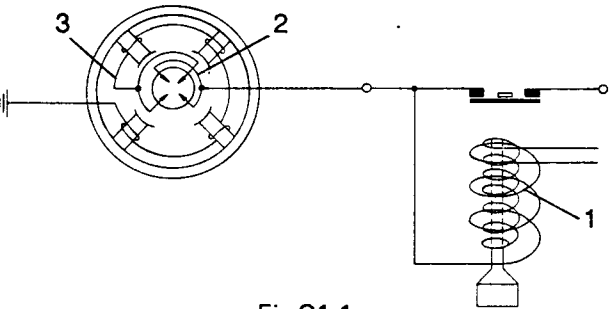

Fig O1.1
10. Refer to Fig O1.1. The field coils are of conventional design but the method of connection is different to that usually employed. The supply voltage to the starter motor is applied via the solenoid (1) direct to one pair of brushes (2). The start of the field winding (3) is connected to the other pair of brushes and the winding terminates at earth (the frame of the starter motor) via a riveted connection to the yoke.